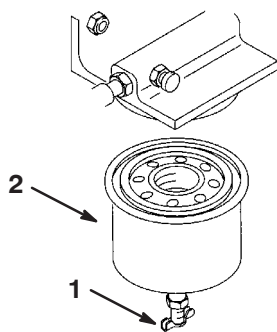

Figure 28
4. Open the drain valve (Fig. 28) and drain the fuel from the fuel filter into a suitable container and dispose of it properly.
5. Remove the fuel filter with a filter wrench (Fig. 28).